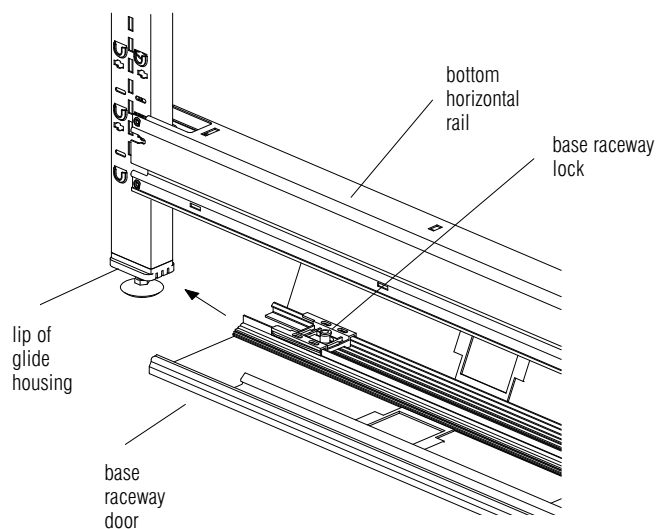

Figure 47
1. Slide the base raceway into place under the panel with the doors lying in the open position. When the raceway is centered under the panel around the glides, snap the trim up over the lip on the glide housings. **Figure 47.**